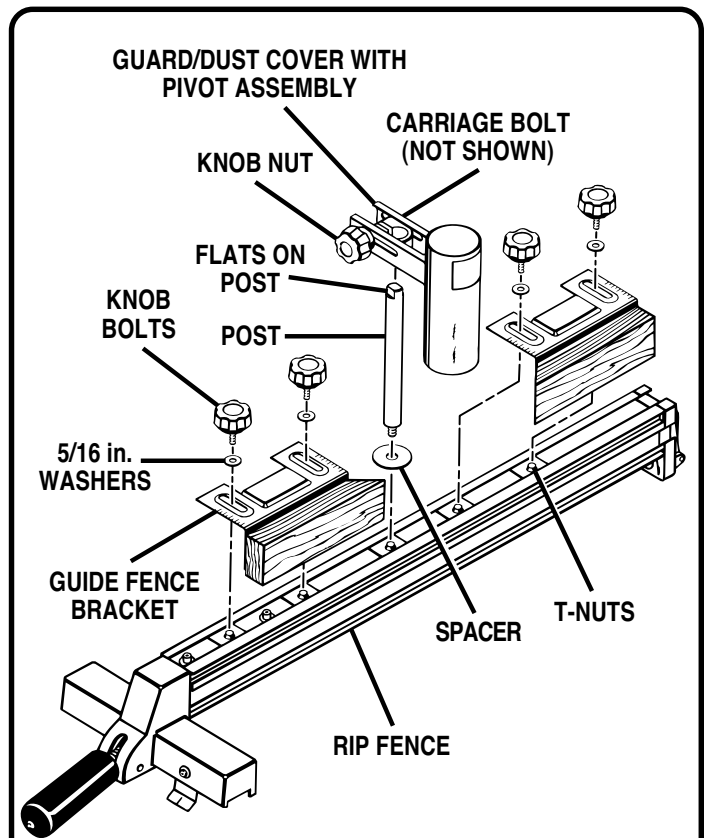

Fig. 4
- To install the guide fence brackets, align each bracket with two of the T-nuts on top of the rip fence. See *Figure 4*.
- Place the spacer on the threaded end of the post and thread the post into the remaining T-nut. See *Figure 4*.
- Place the guard/dust cover with pivot assembly on the post. See *Figure 4*.